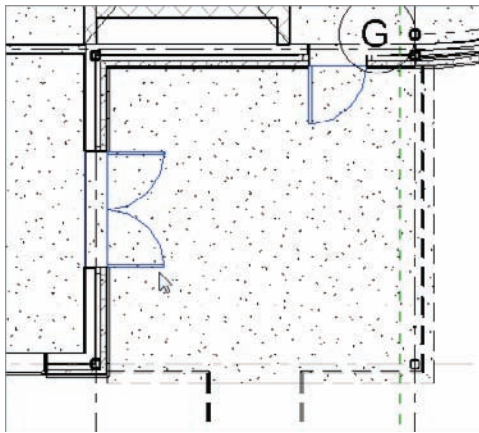

FIGURE 21.6 You no longer need these doors.
16. Go back to the Level 1 plan, and select the two doors and walls shown in Figure 21.6.